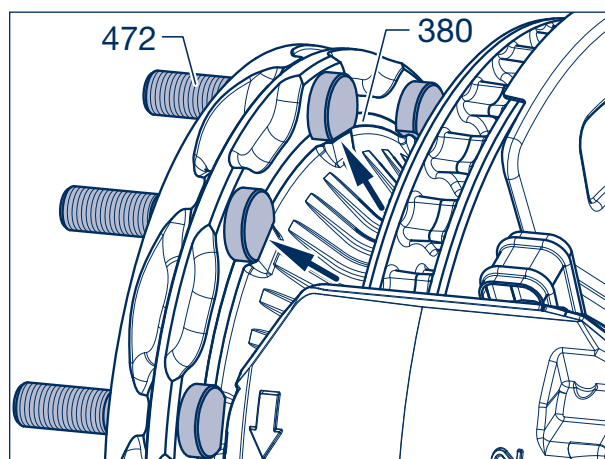

Figure 25
- [36] Align the bore holes for the wheel studs (472) of the ECO Unit (434) and the brake disc (380).
- [37] Insert the wheel bolts (472) into the brake disc / ECO Unit as far as possible. Make sure the wheel stud head is correctly seated on the brake disc (380) (torsion protection); see figure 25.